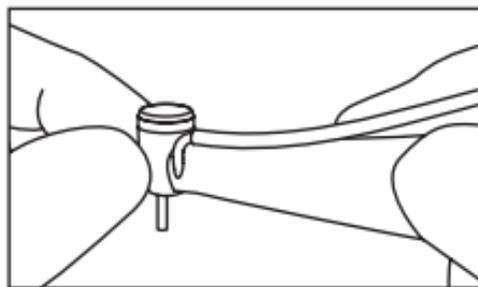

Fig. 6
- 5) After the handpiece rotation has completely stopped, touch the handpiece head to confirm the head is NOT heating abnormally (Fig. 6).